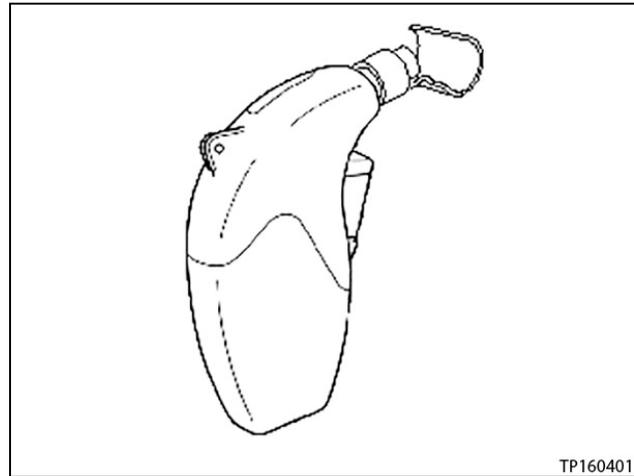
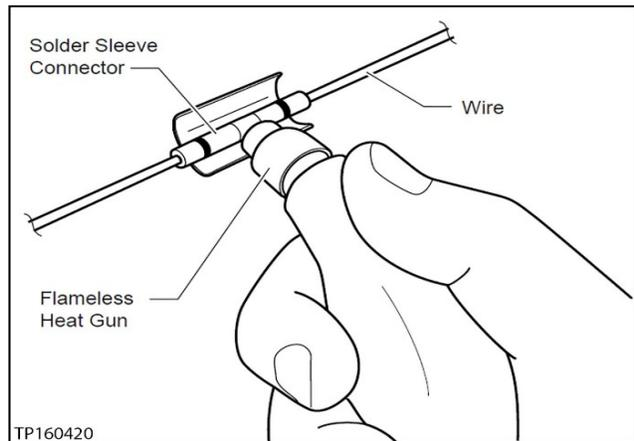

Figure 24
Figure 25
30. Install the solder sleeve connector by shrinking it to the wire with essential tool Flameless Heat Gun J-46538 or equivalent flameless heating tool (see Figure 24 and Figure 25).